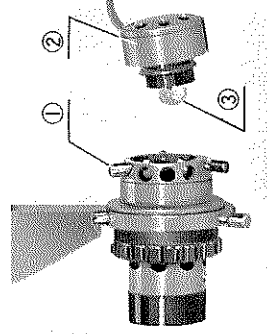

Fig. 8
- (1) Pull out the socket clamping knob ① and slide out the socket ②. (Fig. 8)
- (2) Remove the bulb ③ by slightly depressing it against the seat and then rotating it counterclockwise.
- (3) Insert replacement bulb in reversed order.
- (4) Before use, wipe off thoroughly any fingerprints or stains on the bulb.